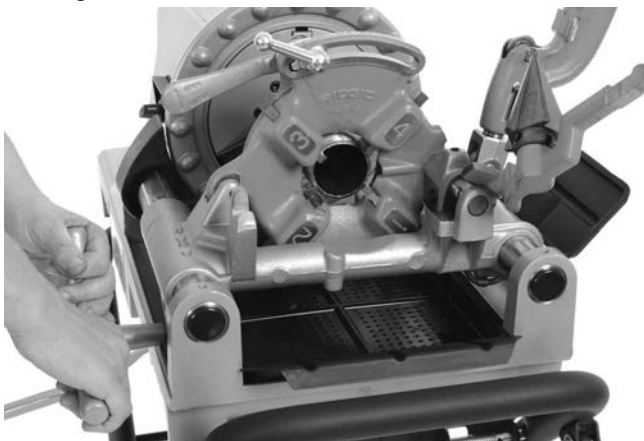

Figure 24 – Threading Pipe (811-A Quick Opening Die Head shown)
7. Turn carriage handwheel to move the die head to the end of the pipe (Figure 24). Apply slight force to the handwheel to start the die head onto the pipe. Once the die head starts threading the pipe, no more force is required on the carriage handwheel.